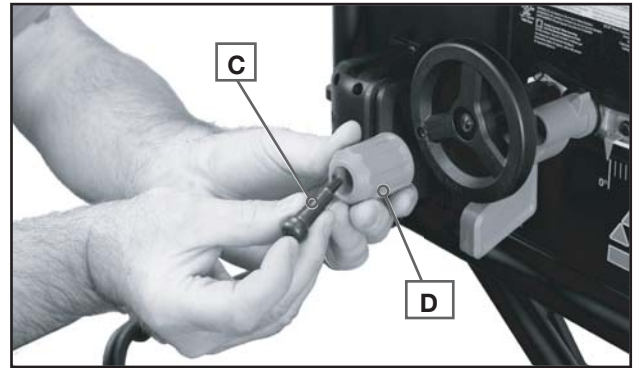

Fig. 1
1. Insert wheel handle shoulder screw (C) in to height adjustment wheel knob (D) as shown in Fig. 1